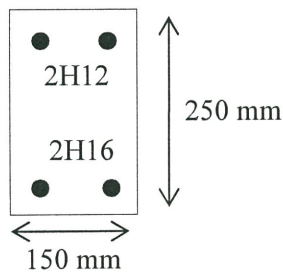

FIGURE Q1
- (c) **FIGUREQ1** shows a cross section for a simply supported beam. Given the following data: